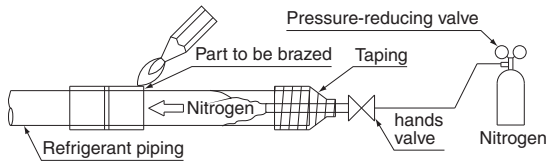

Fig. 6
- Use the Insulation for fitting (6) and (7) provided to the liquid piping and gas piping, respectively, and conduct heat insulation work. (Tighten both edges of the Insulation for fitting (6) and (7) for each joint with the Clamp material (1).)
- Make sure that the joint of the Insulation for fitting (6) and (7) for the joint on the liquid piping and gas piping side faces upward.
- Wrap the Sealing pad (small) (8) around the Insulation for fitting (6) and (7) for the joint (flare nut part).
- When brazing the refrigerant piping, perform nitrogen replacement first, or perform the brazing while feeding nitrogen into the refrigerant piping. (Refer to Fig. 6)